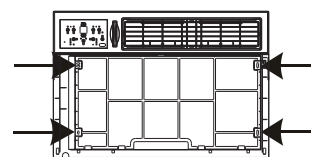

Fig.2
3. Locate the four front screws and remove. These screws will be needed to re-install the front panel (see Fig.2).